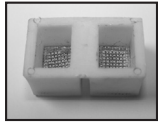

Figure 4
7. At this point the filter cartridge in the pressure chamber base can be removed with pliers and cleaned (fig. 4).